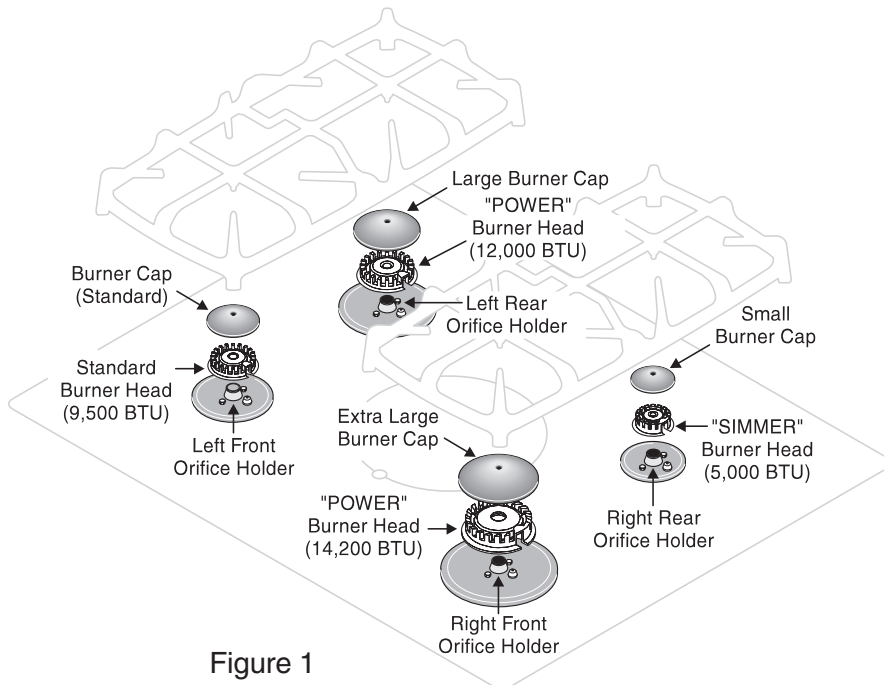
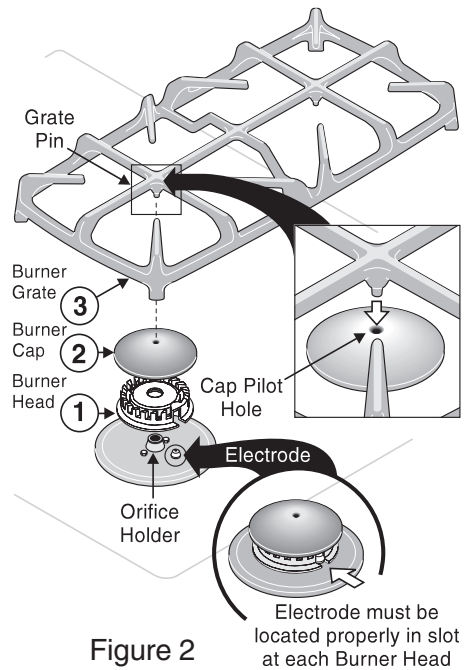

Figure 1
Figure 2
- Place all 4 (four) Burner Heads in the correct locations (See Fig. 1). Make sure that the correct Burner Head is placed with the corresponding Orifice Holder and that the Electrode is located properly in the slot provided with each Burner Head (See Fig. 2). Proper Burner Head placement insures that each Burner will have the correct spark required for gas ignition.
- Place the correct Burner Caps at each of the burner locations (Burner Cap Pilot Hole must face up). Each of the 4 (four) Burner Heads **MUST** have a Burner Cap installed to insure proper ignition and gas flame size and must be in place with the Pilot Hole facing up **BEFORE** placing the Burner Grates (See Fig. 2).
- Place the 2 (two) cast iron Burner Grates supplied with the range. Carefully line-up the 2 Grate Pins on each Grate with the Cap Pilot Holes in the 2 Burner Caps on each side of the range. **DO NOT** force the Burner Grates onto the Burner Caps. Forcing the grates down onto improperly installed Burner Heads and Burner Caps may damage the gas burners. Each Burner Cap is designed with a Cap Pilot Hole in the top center of the Cap. Visually check that **ALL** the Grate Pins line up into the Burner Cap Pilot Holes (See Figure 2). Properly installed Burner Grates will rest with all four Grate legs on the glass cooktop.